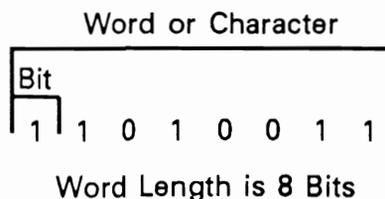

Fig. 7-3. Bits, characters, and words.
**Data Size.** Another parameter, *data size*, refers to the size of the data being sent: how many bits make up a standard character or word. A standard character of data consists of seven or eight bits, depending on the software. The software needs to know the character length or word length of the data being sent, so that it knows what to expect (Fig. 7-3).